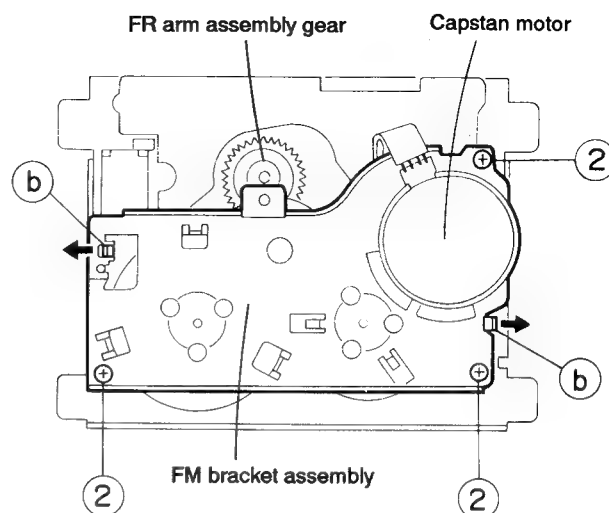

Fig. 5-42
(See Figs. 5-42~5-44)
1. Remove the three screws ② retaining the FM bracket assembly (See Fig. 5-42).
2. While opening the two engagements ① fixing the FM bracket assembly to outside, remove the bracket assembly (See Fig. 5-42).
(See Fig. 5-42~5-44)